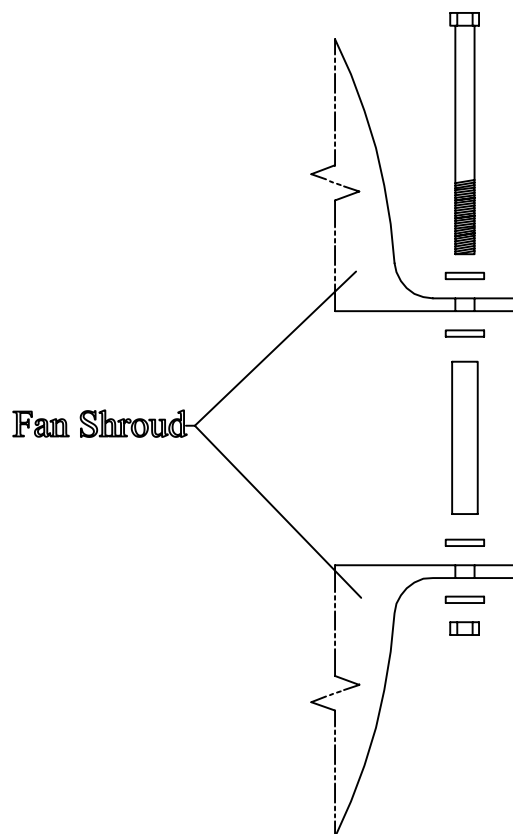

Figure 18
45. Using four 3/8" x 4-1/2" bolts and four 3" tall steel spacers reattach the two halves of the fan shroud. Use 3/8" SAE washers on both sides of the plastic shroud tabs and fasten with 3/8" lock nuts **Figure 18**. Tighten the 3/8" hardware just enough to snug the assembly. Do not over-tighten.